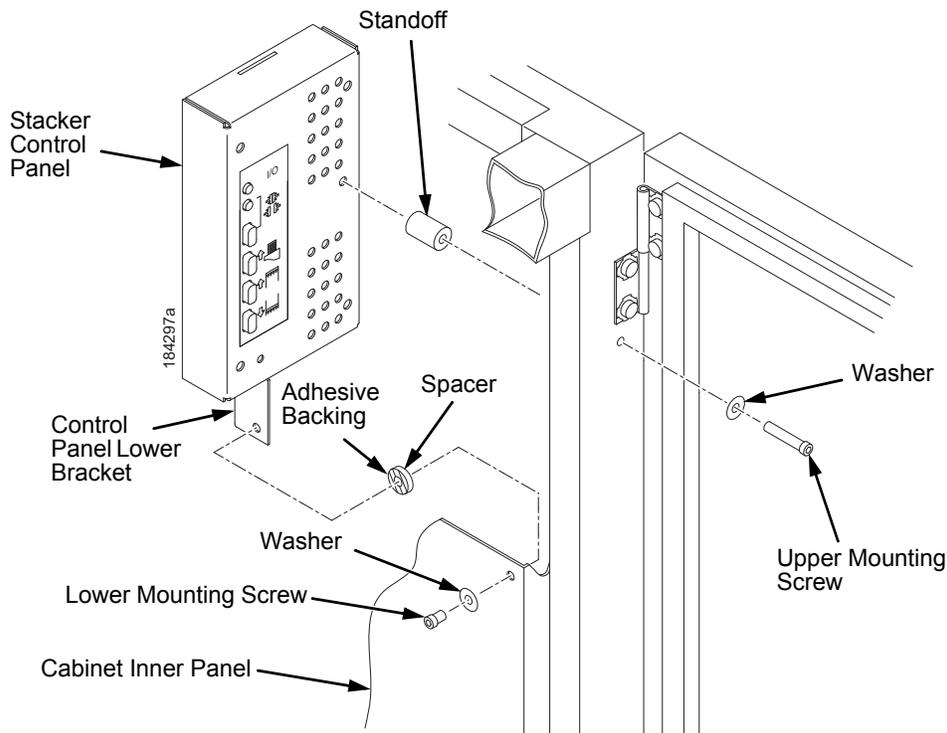

Figure 22. Installing the Stacker Control Panel
23. Apply the double-sided tape to one end of the control panel standoff. Remove the paper backing and hold the standoff inside the cabinet while you insert the upper mounting screw and washer through the hole in the frame. Use the screw as a guide to align the standoff with the hole, then press the standoff against the inside wall and push the upper screw in as far as it will go. Now maneuver the control panel into position and install the upper mounting screw finger tight in the control panel. (Figure 22.)
- 1) Peel the backing off the spacer adhesive. (Figure 22.)
- 2) Align the spacer with the holes in the lower bracket and inner panel. (Figure 22.)
- 3) Press the spacer adhesive against the inner panel. (Figure 22.)
25. Install the lower mounting screw and washer. Tighten the upper mounting screw. (Figure 22.)
EMEA (RoHS): 250676-901 (See Figure 22, page 404)